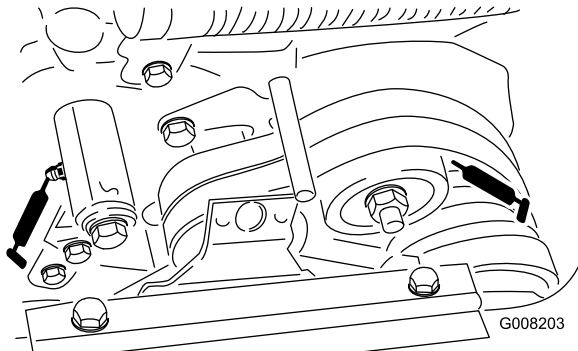

Figure 19
- 2 on the belt idler pivots (Figure 19).